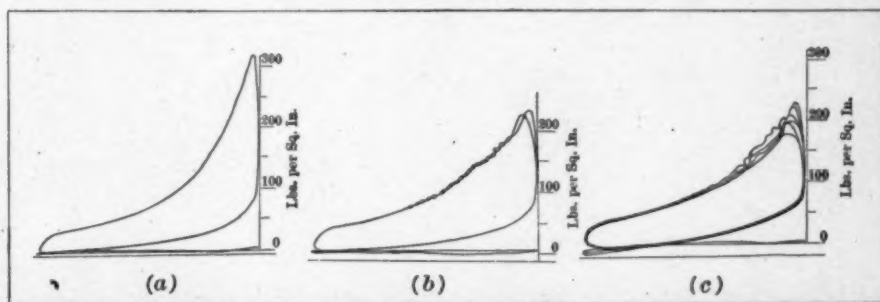
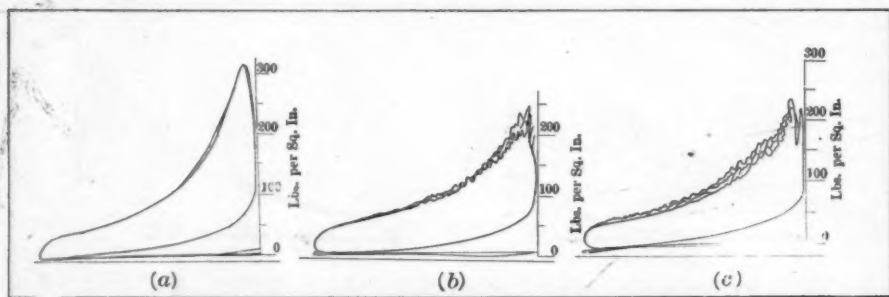
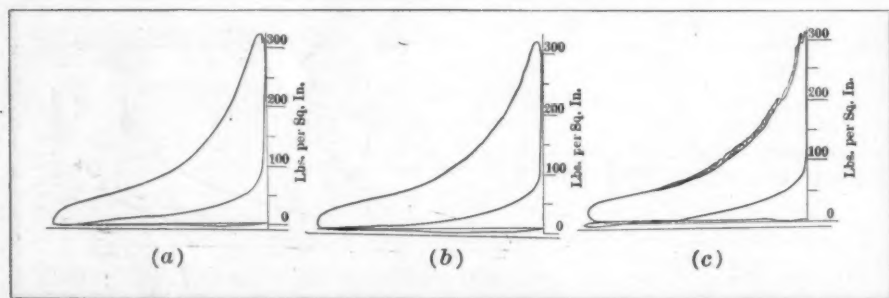

Fig. 3—A set of manograph cards, showing superior result due to good timing and suitable mixtures; but increasing speed shows a falling-off of pressure
Fig. 4—Set of manograph cards, showing relatively poor result due to placing of the spark plugs in the region of the exhaust valves
Fig. 5—Set of manograph cards indicating excellent results due to the use of two sparks simultaneously
Transferring the attention to Fig. 3 of a set of manograph cards, (a) shows an explosion pressure of 320 pounds per square inch, and that the spark was well timed, but it is pointed out that the speed was only 640 revolutions per minute, and it is worth noting in this case that the spark plug was located in the region of the inlet valve. Increasing the speed to 1,100 revolutions per minute had the effect of reducing the maximum pressure down to 240 pounds per square inch, thus indicating that, while good timing could be maintained, increasing the speed had a marked bearing upon the maximum pressure and a planometer reading would probably show that the mean effective pressure decreased a little, although, as will be readily appreciated, the mean effective pressure of a motor is not proportional to the maximum pressure. When the speed was increased to 1,600 revolutions per minute, the maximum pressure varied considerably with repeated trials, although it held on one or two occasions to about the same level as that which was obtained in (b). But there were other evidences of the ills due to speed, as, for illustration, the depression (below the atmosphere) increased, and the shape of the boundaries of the en-
As a further measure of the several influences upon the mean effective pressure of a motor, reference may be had to Fig. 4 showing the performance at three different speeds when the ignition took place through spark plugs placed in the region of the exhaust valves. The curve (a) at 640 revolutions per minute reached a maximum of 310 pounds per square inch, and while the timing of the spark was a little off perfection, the shape of the curve is characteristic. Increasing the speed to 1,100 revolutions per minute produced a curve with a ragged contour, as shown in (b) and the maximum pressure fell away to 250 pounds per square inch, varying down to 205 pounds per square inch during repeated trials. Increasing the speed to 1,600 revolutions per minute added to the ragged boundaries of the curve and subtracted from the maximum pressure to an approximate mean of 225 pounds per square inch during repeated trials, showing also that the mean effective pressure was undoubtedly less than that due to placing the spark plugs on the inlet side as depicted in Fig. 3.
Advancing the methods of observation leads to the condition as depicted in Fig. 5, in which two simultaneous sparks at different speeds brought about a correction of the evils above noted; glancing at (a) in the figure, it will be observed that the maximum pressure increased to 325 pounds per square inch when the speed of the motor was 640 revolutions per minute. Increasing the speed to 1,100 revolutions per minute, under the same conditions of sparking, altered the boundaries of the manograph curve but slightly, nor did the maximum pressure reduce beyond a mere trifle. This would not be considered so remarkable a performance were it not for the stability shown when the speed was increased to 1,600 revolutions per minute; the maximum pressure continued at about the same level as before, and the area of the manograph card was maintained with great persistence, although the expansion line looks a little ragged, which might be an indication of approaching deterioration of the good conditions obtaining, but there is no evidence to show that the motor might not have performed extremely well at a considerably higher speed. This is in marked contrast with the performance as shown in Fig. 3, which, in itself, was better than when a single sparking system was employed with the spark plugs located on the exhaust side as shown in Fig. 4, and it would seem quite safe from this, and other evidence of a like character, to reach the conclusion that the property which we are pleased to term "assimilation" is in its best form under the conditions as presented in Fig. 5, taking advantage of an efficient spark, well timed, utilizing the same at two remote points in the gas body, and it is just possible that the good which is shown by multi-sparking would be augmented by using three or more sparking points, thus reducing the distance of travel of flame in the gas body so that there will be no burning of the gas during the downward migration of the piston on the power stroke.
occurring while the piston approaches the cylinder head; *explosion*, while the piston is at or near the end of its stroke, and *expansion*, while the piston moves away from the head. Fig. 3 shows the corresponding variations in pressure and volume, somewhat simplified. During compression the pressure of the charge increases, while its volume decreases, and the law of change has been thoroughly established as that given in equation (I). During combustion, if the adjustments are correct, the pressure and temperature may be considered to increase very rapidly, while the volume remains nearly constant. During expansion the pressure falls and the volume increases, again according to the law expressed in equation (I).
**Work Done**—During expansion the work done *on the piston*, Fig. 3, is in accordance with equation (V),